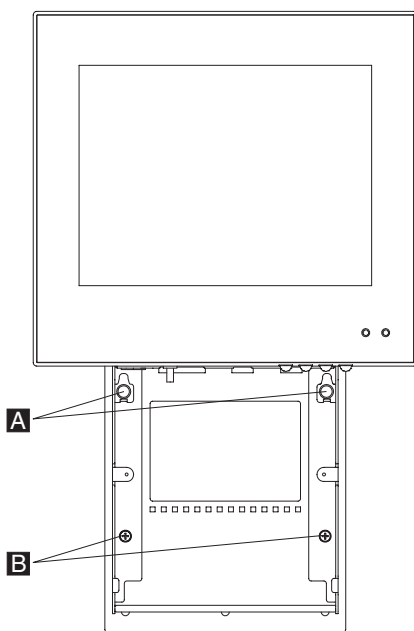

Figure 111. Loosening the wall mount plate screws
7. Loosen the two wall mount wall bracket screws **B** in Figure 111.